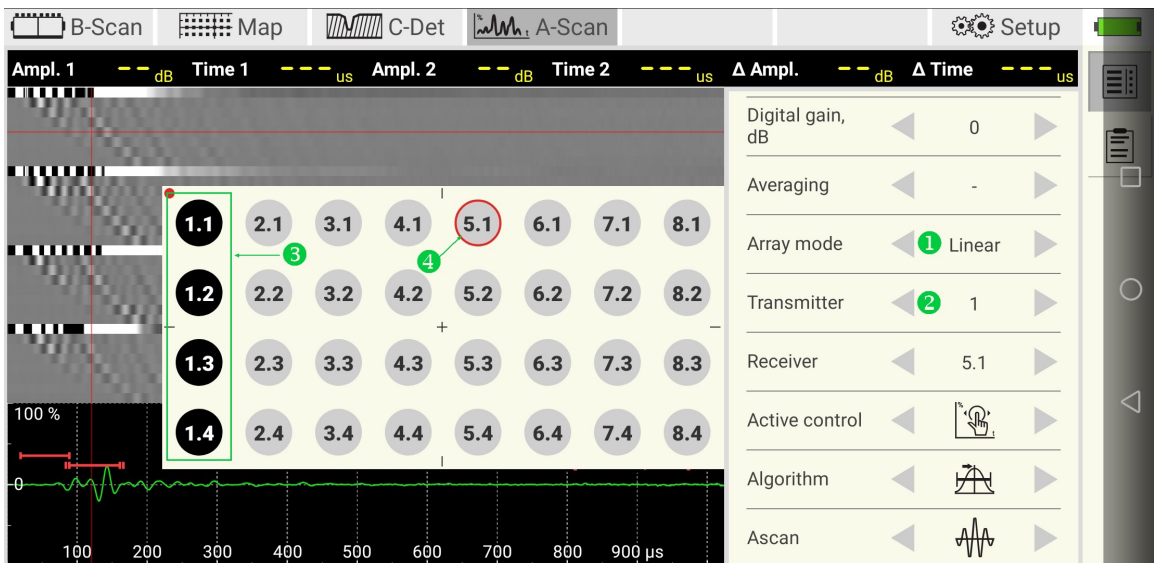

Figure 11: Selecting the group of transmitters
In the linear array mode ①, the operator can select a group of four transmitting transducers. Tap on the transmitter control ②. Select the group (or column) of transmitters in the rising dialog. Transmitters become black ③. The receiver ④ has a red border (Figure 11).